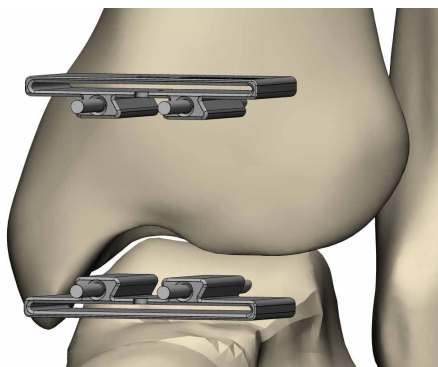

Fig. 4.3
- 4.3.** Leaving the k-wires in place, slide the distractor off the flat cut guides. Under power, perform the resections using an oscillating saw. (fig. 4.3).